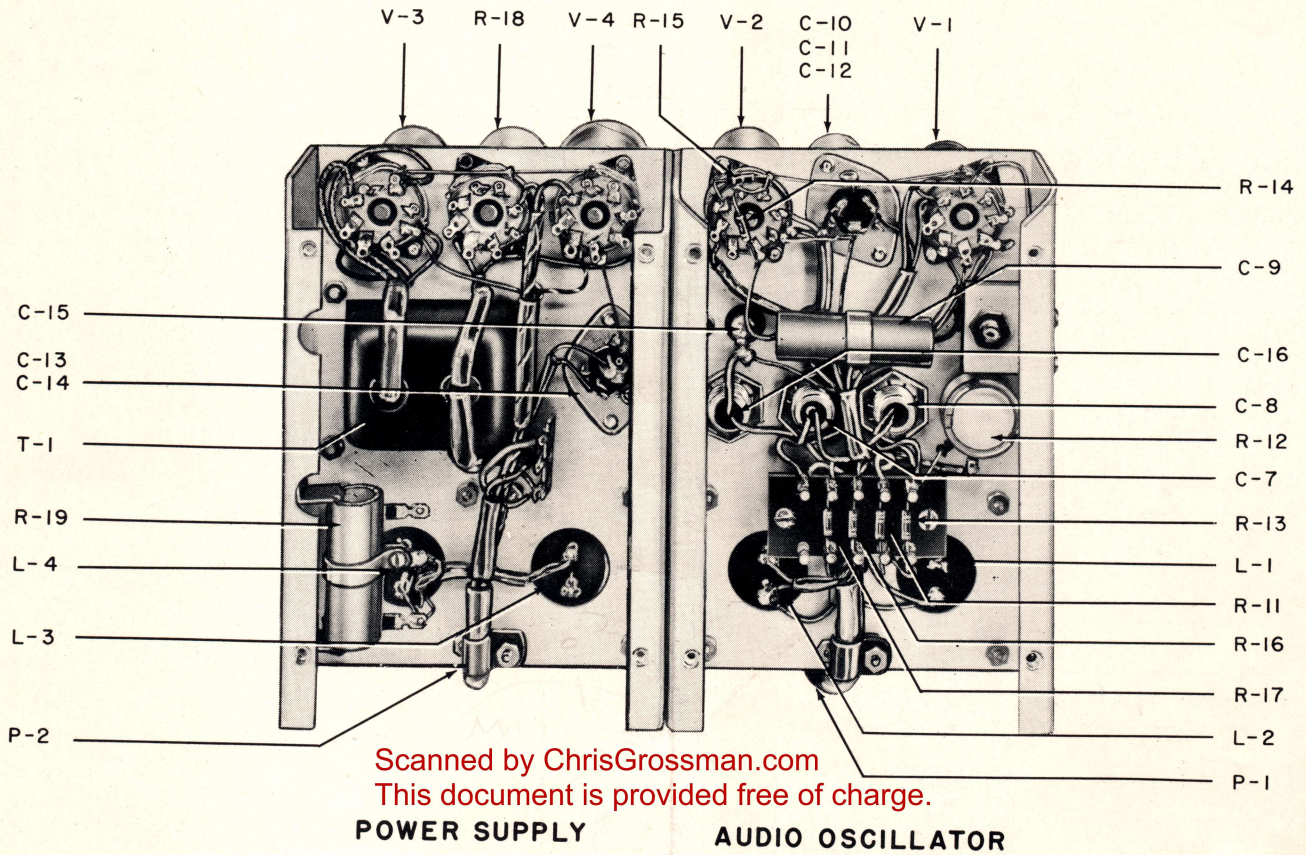

Fig. 7. Sub-chassis View of Power Supply and Audio Oscillator
*b. VR-150 REGULATOR TUBE (Fig. 7).*